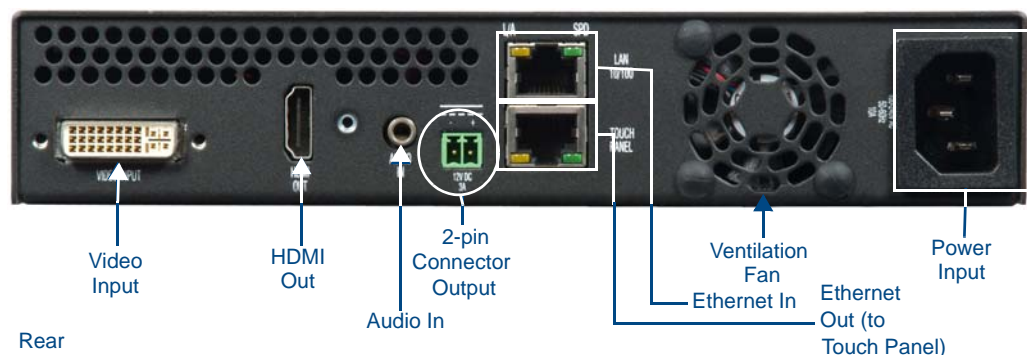

FIG. 4 Rear of the MXA-MP/MPL, showing input and output power
When using the MXA-MP or MXA-MPL with a Modero X Series touch panel, the device may be used to supply power to the touch panel in certain circumstances. (For more information, please refer to the *Maximum Power Cable Gauges and Distances* section on page 9.) Instead of using a separate external power source, touch panels using an external power source may also connect to the device via the 2-pin connector output on the device's back (FIG. 4).
1. Insert the incoming cable from the network LAN to the upper *Ethernet In* RJ45 connector (FIG. 4).
3. If the touch panel is an MXD/T-1900L-PAN or MXD/T-2000XL-PAN (panoramic) device, outgoing power to the touch panel may be supplied via the device's 2-pin connector output (FIG. 4) or through another source. Do not apply power until the installation is complete.